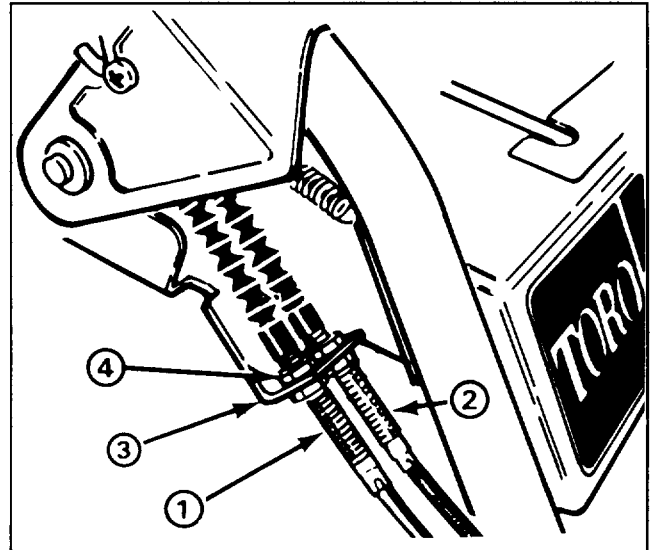

Figure 26
4. Loosen upper jam nut securing auger/impeller cable to mounting bracket (Fig. 26).
ADJUSTING TRACTION DRIVE BELT (Fig. 26)